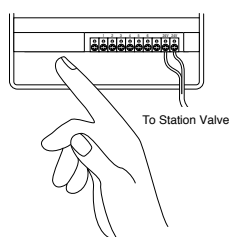

FIGURE 18: Connecting Valve Wires
- It may be necessary to open the terminal to allow for wire insertion or removal. To do this, turn the screw with a Phillips screwdriver until wire is secure [See Figure 18].
- Connect the common wire to the terminal labeled **COM** [See Figure 18].